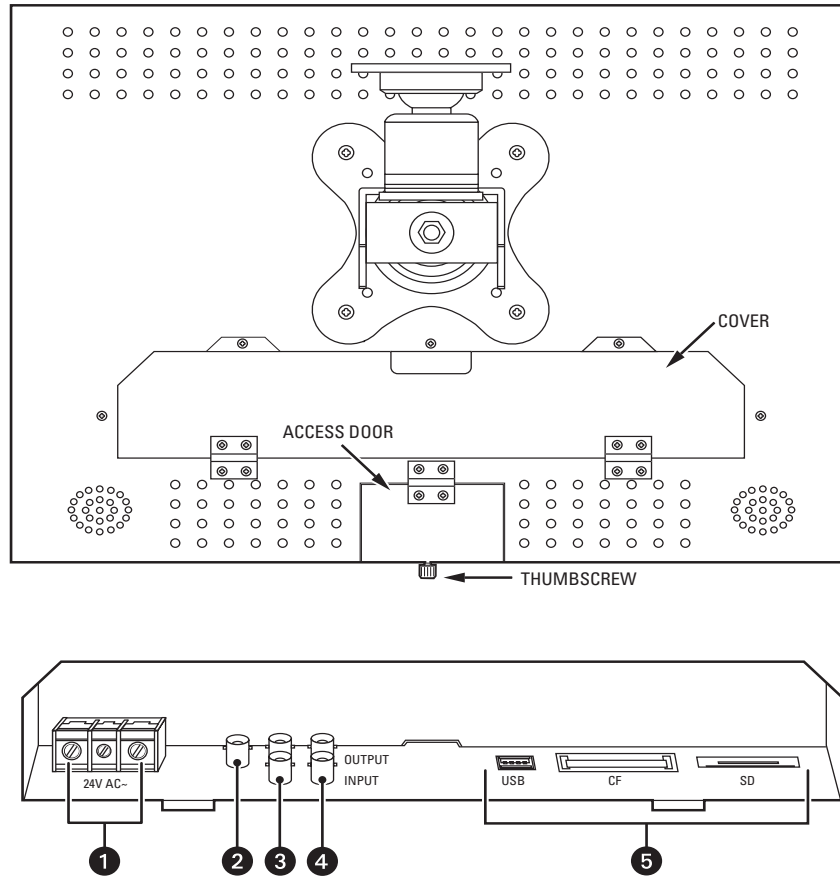

Figure 2. Rear Panel Connectors
2. Attach the leads from the power supply (not supplied) to the left and right connectors (refer to callout 1 in Figure 2 on page 8). For more information about power supplies, refer to *Recommended Power Supplies* on page 25.
3. Connect the camera output and any other devices using the connectors (refer to Figure 2 on page 8). Devices that can be connected include DVD players, time-lapse VCRs, and media cards.